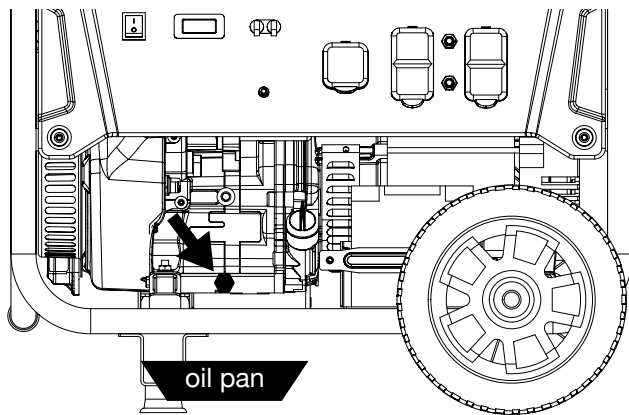

Figure 20 - Oil Drain Plug
3. Place oil pan (or suitable container) under the oil drain plug (see Figure 20).
5. Remove the oil drain plug (see Figure 20). Once removed, place the oil drain plug on a clean surface.